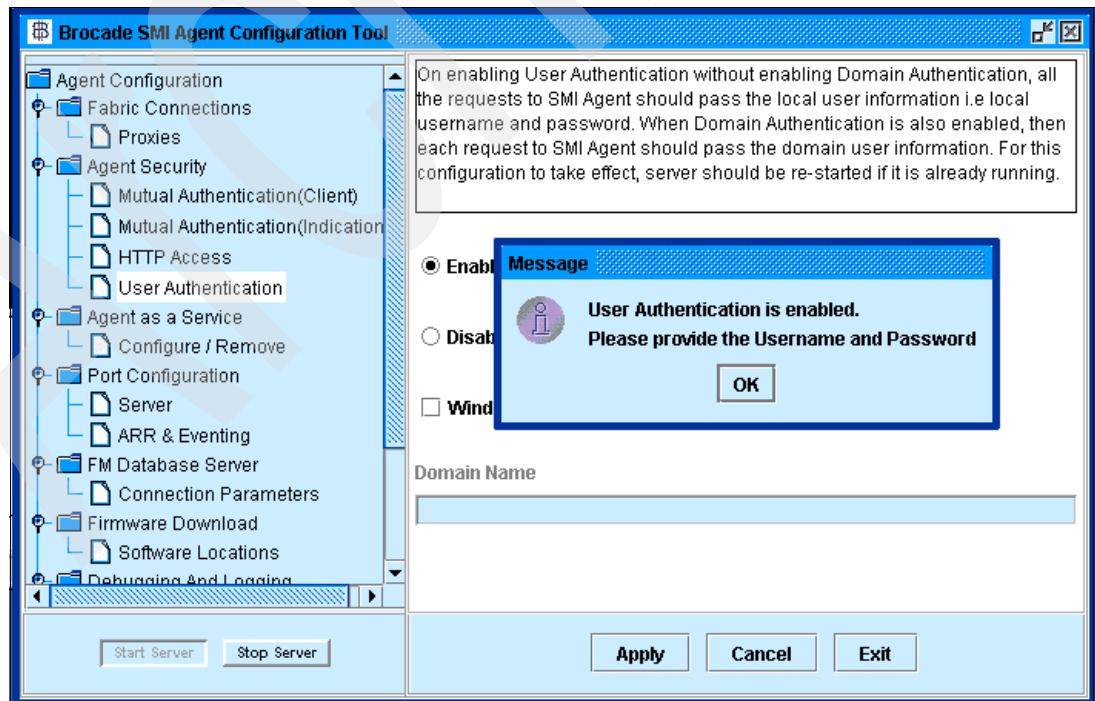

Figure 6-100 Enable User Authentication
- By default, **Disable User Authentication** is set to allow anyone access to the SMI-S Agent. You need to change in order to enable user authentication. Select **Enable User Authentication**, and click **Apply**. A message appears indicating that you have enabled user authentication, and you need to supply the user name and password as shown in Figure 6-100. Click **OK** to continue.